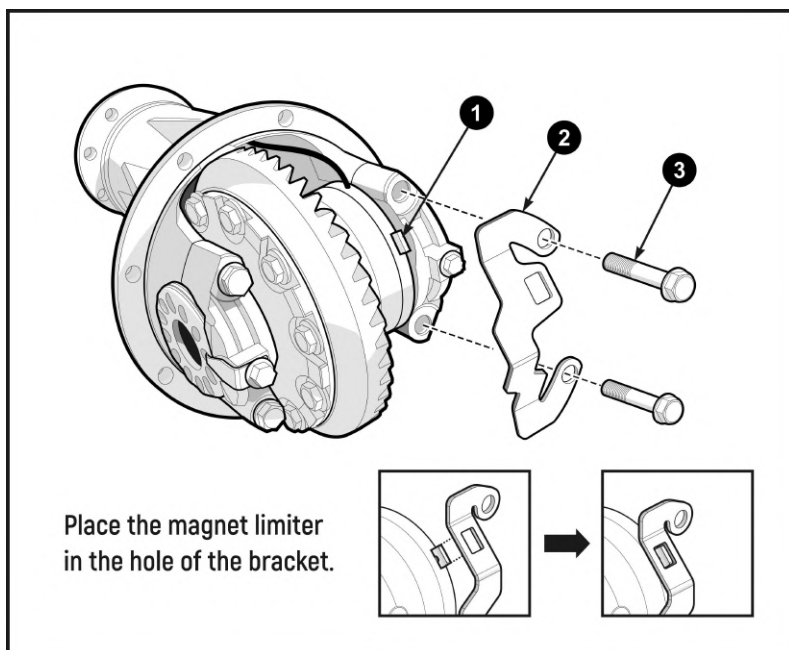

Fig. 26
3.17 After completing the backlash adjustment, tighten the left-hand bearing cap bolts to the torque specified by the vehicle manufacturer, and install the bracket (2) onto the right-hand bearing cap. (**Fig. 26**)
3.18 Position the magnet so that its rotation stop tab (1) engages with the corresponding slot in the bracket. Insert the bolts (3) through the bracket holes and thread them into the right-hand bearing cap. (**Fig. 26**)